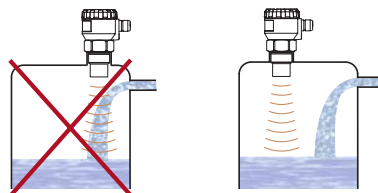

Fig. 8: Level meter installation outside the influence of filling
- Do not install the level meter in or above the **filling point** (Fig. 8).